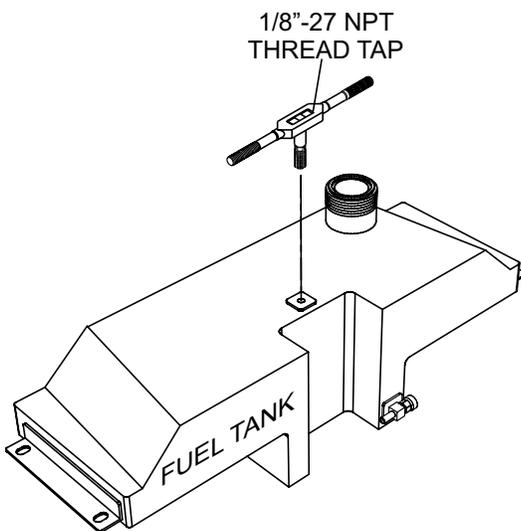

Figure 10. Pipe Plug Tap Hole
3. Using a 1/8"-27 NPT thread tap (Figure 10), thread the hole where the existing roll-over valve was installed.